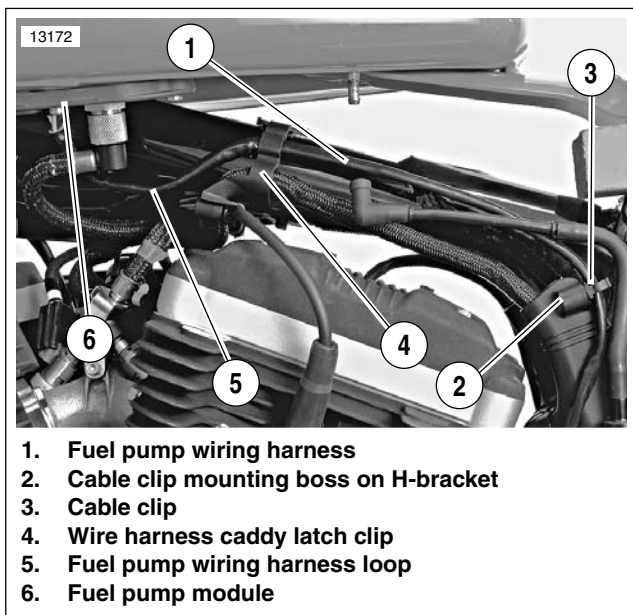

Figure 4-8. Fuel Pump Wiring Harness Routing
“See Figure 4-8. Place a clean, soft cloth over front of fuel tank to keep tank from contacting top fork clamp and damaging paint. Lift up rear of fuel tank. Place fuel pump wiring harness (1) into clip on wire harness caddy latch clip on frame backbone tube. Make sure harness forms a loop (5) between caddy latch clip and fuel pump module (6) to avoid pinching harness between fuel tank and frame backbone tube.”
15. Replace Figure 4-8 on page 4-10 with Figure 4-8 below.